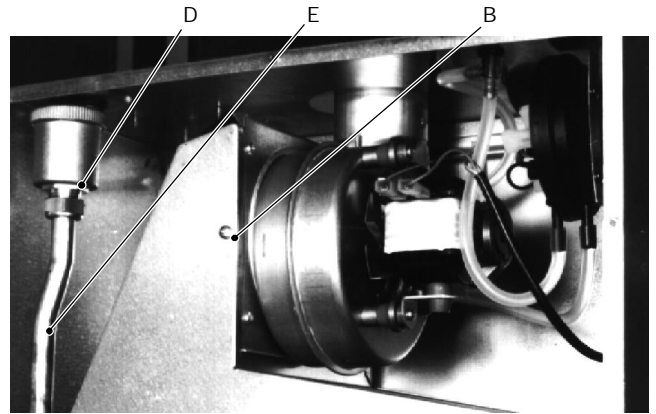

fig. 14a
- 5a Remove the front part of the flue gas hood by unscrewing the screw B (fig. 14a)
- 6 Unscrew the automatic air valve connection nut D and remove the valve (fig. 14a);